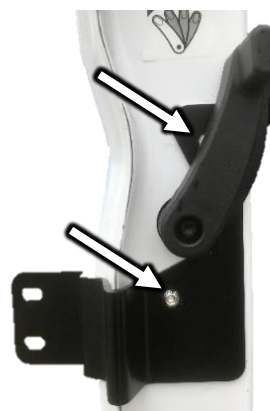

Figure 11: Installed Inner Bracket
22. Install the inner driver door bracket using the two M6 bolts (70437). Then remove the clamp and reinstall the pull handle using the factory bolt as seen in Figure 11.